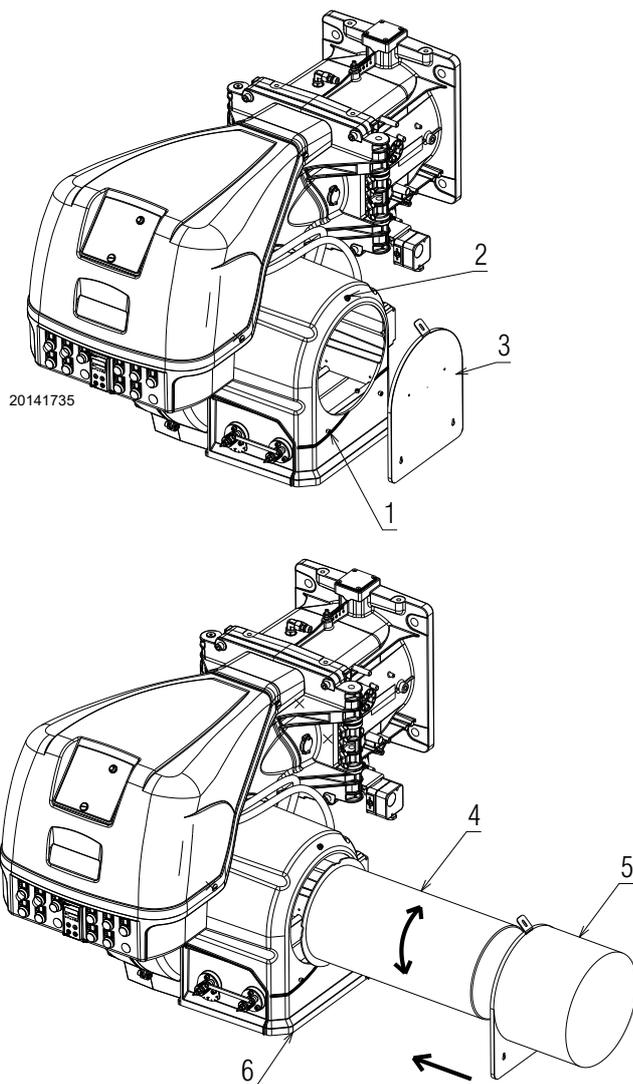

Fig. 22
- remove the sound damping inside the air intake 6)(Fig. 22);
- loosen and remove the screws 1)-2)(Fig. 22);
- fix the cover 5) with the screws 1)-2)(Fig. 22).